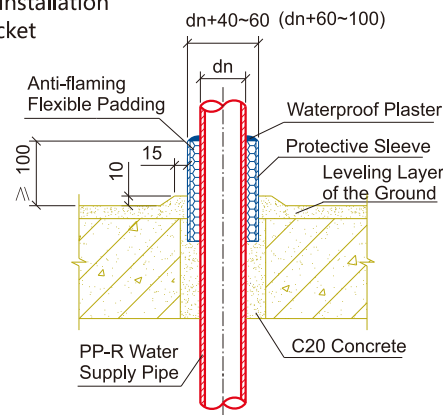

Fig.9 Pipe Crosses Concrete in the Basement
- 2.2** Pre-bury the steel waterproof sleeve when the pipe crosses the concrete wall in the basement. The construction details have been showed in figure 9.